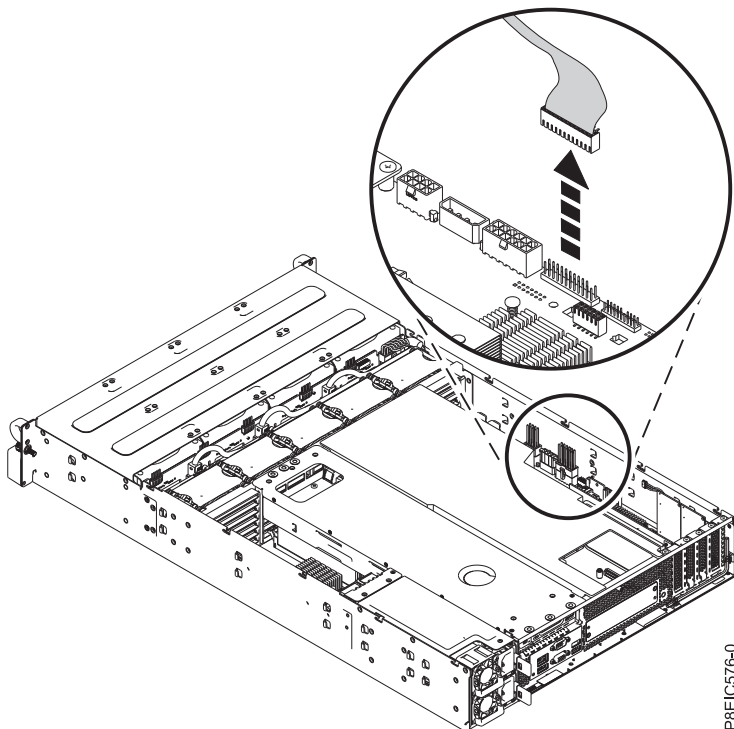

Figure 60. Disconnecting the front panel control cable
2. Remove the front panel control cable from the system backplane, as shown in Figure 60.